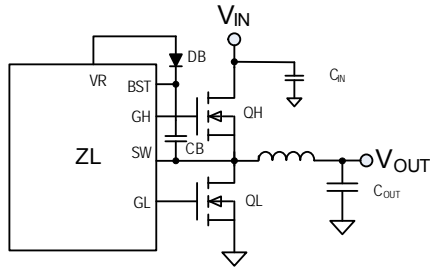

FIGURE 5. Synchronous Buck Converter
Figure 5 illustrates the basic synchronous buck converter topology showing the primary power train components. This converter is also called a step-down converter, as the output voltage must always be lower than the input voltage. In its most simple configuration, the ZL2008 requires two external N-channel power MOSFETs, one for the top control MOSFET (QH) and one for the bottom synchronous MOSFET (QL). The amount of time that QH is on as a fraction of the total switching period is known as the duty cycle D , which is described by Equation 1:
Typically, buck converters specify a maximum duty cycle that effectively limits the maximum output voltage that can be realized for a given input voltage. This duty cycle limit ensures that the lowside MOSFET is allowed to turn on for a minimum amount of time during each switching cycle, which enables the bootstrap capacitor (CB in Figure 5) to be charged up and provide adequate gate drive voltage for the high-side MOSFET. See section "High-side Driver Boost Circuit" on page 12 for more details.
The gate drive voltage for the high-side MOSFET driver is generated by a floating bootstrap capacitor, CB (see Figure 5). When the lower MOSFET (QL) is turned on, the SW node is pulled to ground and the capacitor is charged from the internal VR bias regulator through diode DB. When QL turns off and the upper MOSFET (QH) turns on, the SW node is pulled up to V_{DD} and the voltage on the bootstrap capacitor is boosted approximately 5V above V_{DD} to provide the necessary voltage to power the high-side driver. A Schottky diode should be used for DB to help maximize the high-side drive supply voltage.